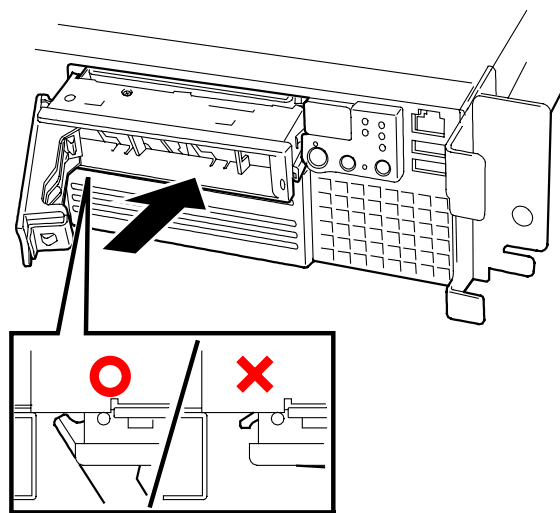

Figure 4-60. Installing the hard drive into the Flex Bay Slot
8. Slowly close the handle. The handle is locked when a "click" is heard. See Figure 4-60.